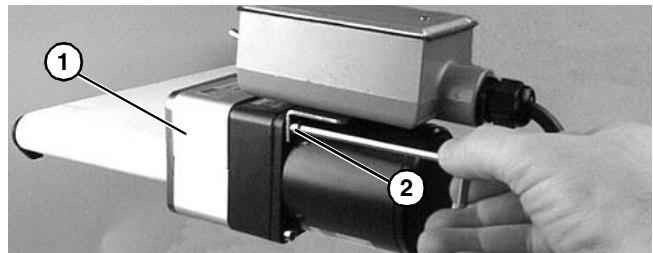

Figure 8
- Insert top cover (**Figure 8, item 1**) into bottom cover. Attach top cover with two (2) top screws (**Figure 8, item 2**). Tighten to 45 in-lb (5 Nm).